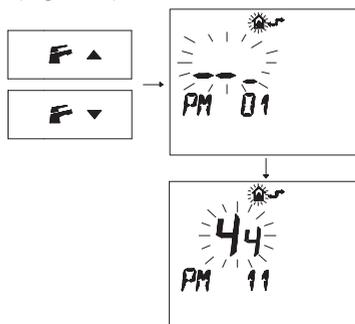

Fig. 7.33
- Press buttons **F** and **▲** or **F** and **▲** to display the "PM11" program of the pump post-circulation (Fig. 7.33).